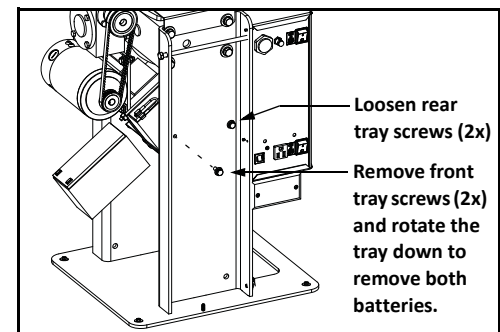

Figure 6-17.
4. To disconnect the battery wires, loosen the two rear screws and remove the front two screws that secure the support tray. See Figure 6-17.